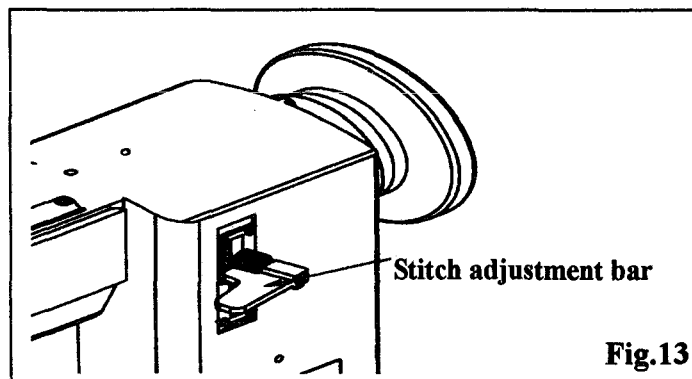

Fig.13
11. STITCH LENGTH & REVERSING LEVER (Fig.13)